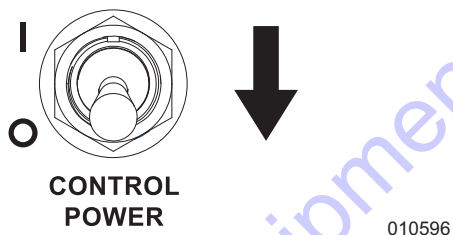

Figure 3-45. Controller Power Switch
- See **Figure 3-45**. Switch controller power to OFF (O).